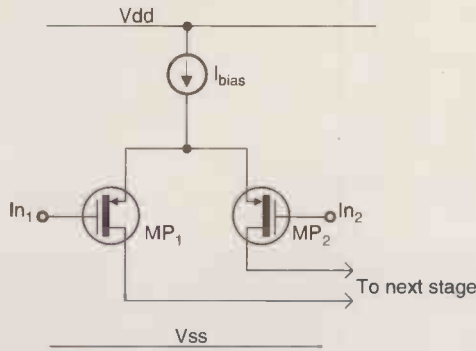

Fig. 2. Rail-to-rail input stage, for applications where both high and low common-mode inputs need to be handled.
Frequency-modulated signals are rather complex. One cannot simply down convert by mixing with a frequency the same as the carrier, as with AM or SSB signals. Instead in-phase (I) and quadrature (Q) signals have to be produced and recombined to reform the FM, as is done in this device. The block diagram taken from the manufacturers data sheet is shown in Fig. 2.
In applications where both low and high input values of common mode are needed, a rail to rail input stage is needed, Fig. 2. It comprises both a p-channel input pair and an n-channel input pair.
The common-mode input range of Fig. 2 can be analysed considering the following three input signals: